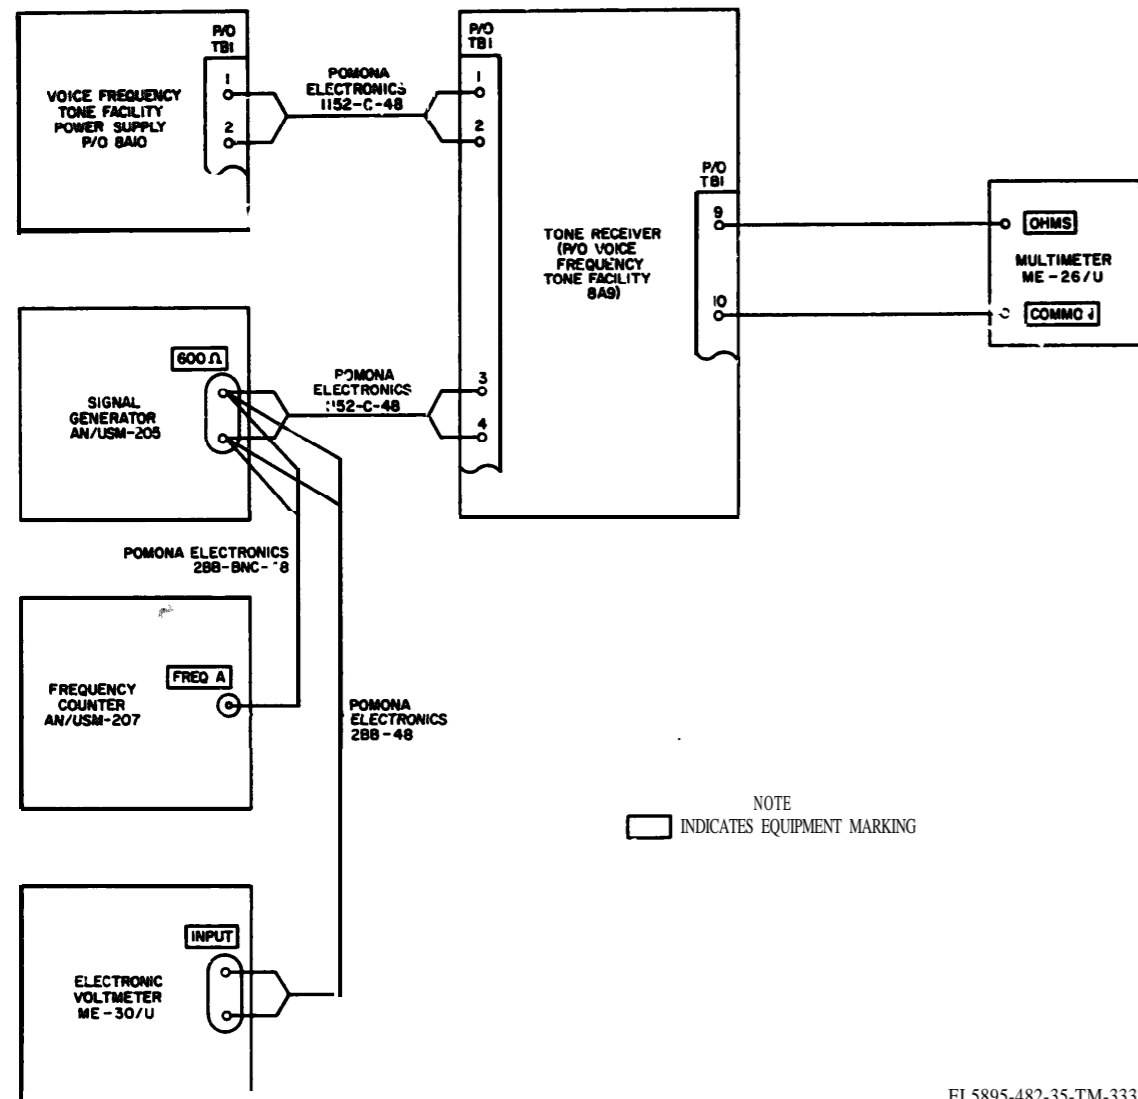

Figure 5-14 Voice frequency tone facility remote control tone converter operational test setup diagram
- (1) Connect the equipment as shown in figure 5-14 and connect the equipment to the 115-volt ac power source.
- (2) Turn on all equipment and allow a 15-minute warmup period before proceeding.